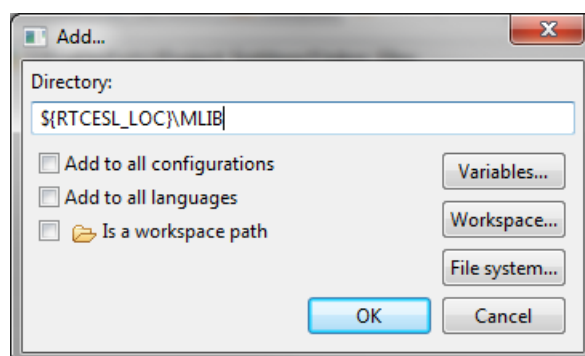

Figure 1-19. Library path inclusion
5. Look for the RTCESL_LOC variable by clicking Variables..., and then finish the path in the box by adding the following (see Figure 1-19): `${RTCESL_LOC}\MLIB`.